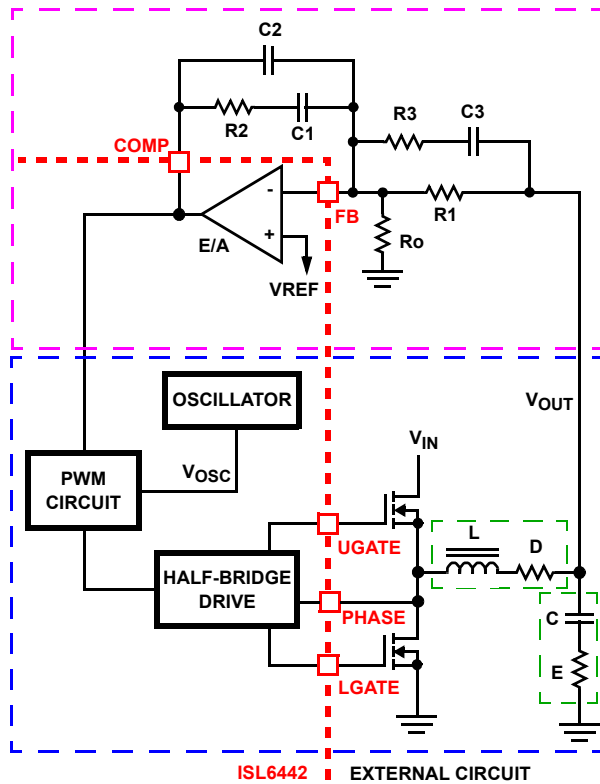

FIGURE 14. VOLTAGE-MODE BUCK CONVERTER COMPENSATION DESIGN
Figure 14 highlights the voltage-mode control loop for a synchronous-rectified buck converter, applicable to the ISL6442 circuit. The output voltage (V_{OUT}) is regulated to the reference voltage, V_{REF} . The error amplifier output (COMP pin voltage) is compared with the oscillator (OSC) modified sawtooth wave to provide a pulse-width modulated wave with an amplitude of V_{IN} at the PHASE node. The PWM wave is smoothed by the output filter (L and C). The output filter capacitor bank's equivalent series resistance is represented by the series resistor E.
The compensation network consists of the error amplifier (internal to the ISL6442) and the external R1-R3, C1-C3 components. The goal of the compensation network is to provide a closed loop transfer function with high 0dB crossing frequency (F_0 ; typically 0.1 to 0.3 of F_{SW}) and adequate phase margin (better than 45°). Phase margin is the difference between the closed loop phase at F_{0dB} and 180°. The equations that follow relate the compensation network's poles, zeros and gain to the components (R1, R2, R3, C1, C2, and C3) in Figure 14. Use the following guidelines for locating the poles and zeros of the compensation network:
1. Select a value for R1 (1kΩ to 5kΩ, typically). Calculate value for R2 for desired converter bandwidth (F_0). If setting the output voltage via an offset resistor connected to the FB pin, R_o in Figure 14, the design procedure can be followed as presented.